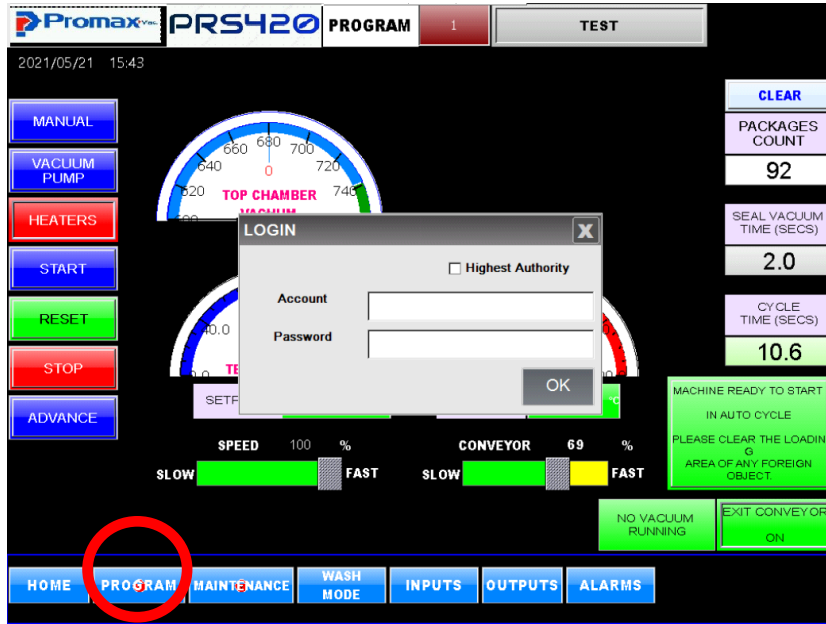

Fig.OP-5.17
-Press the PROGRAM button on the left side of the home screen (Fig. OP-5.17) and a password screen will appear.